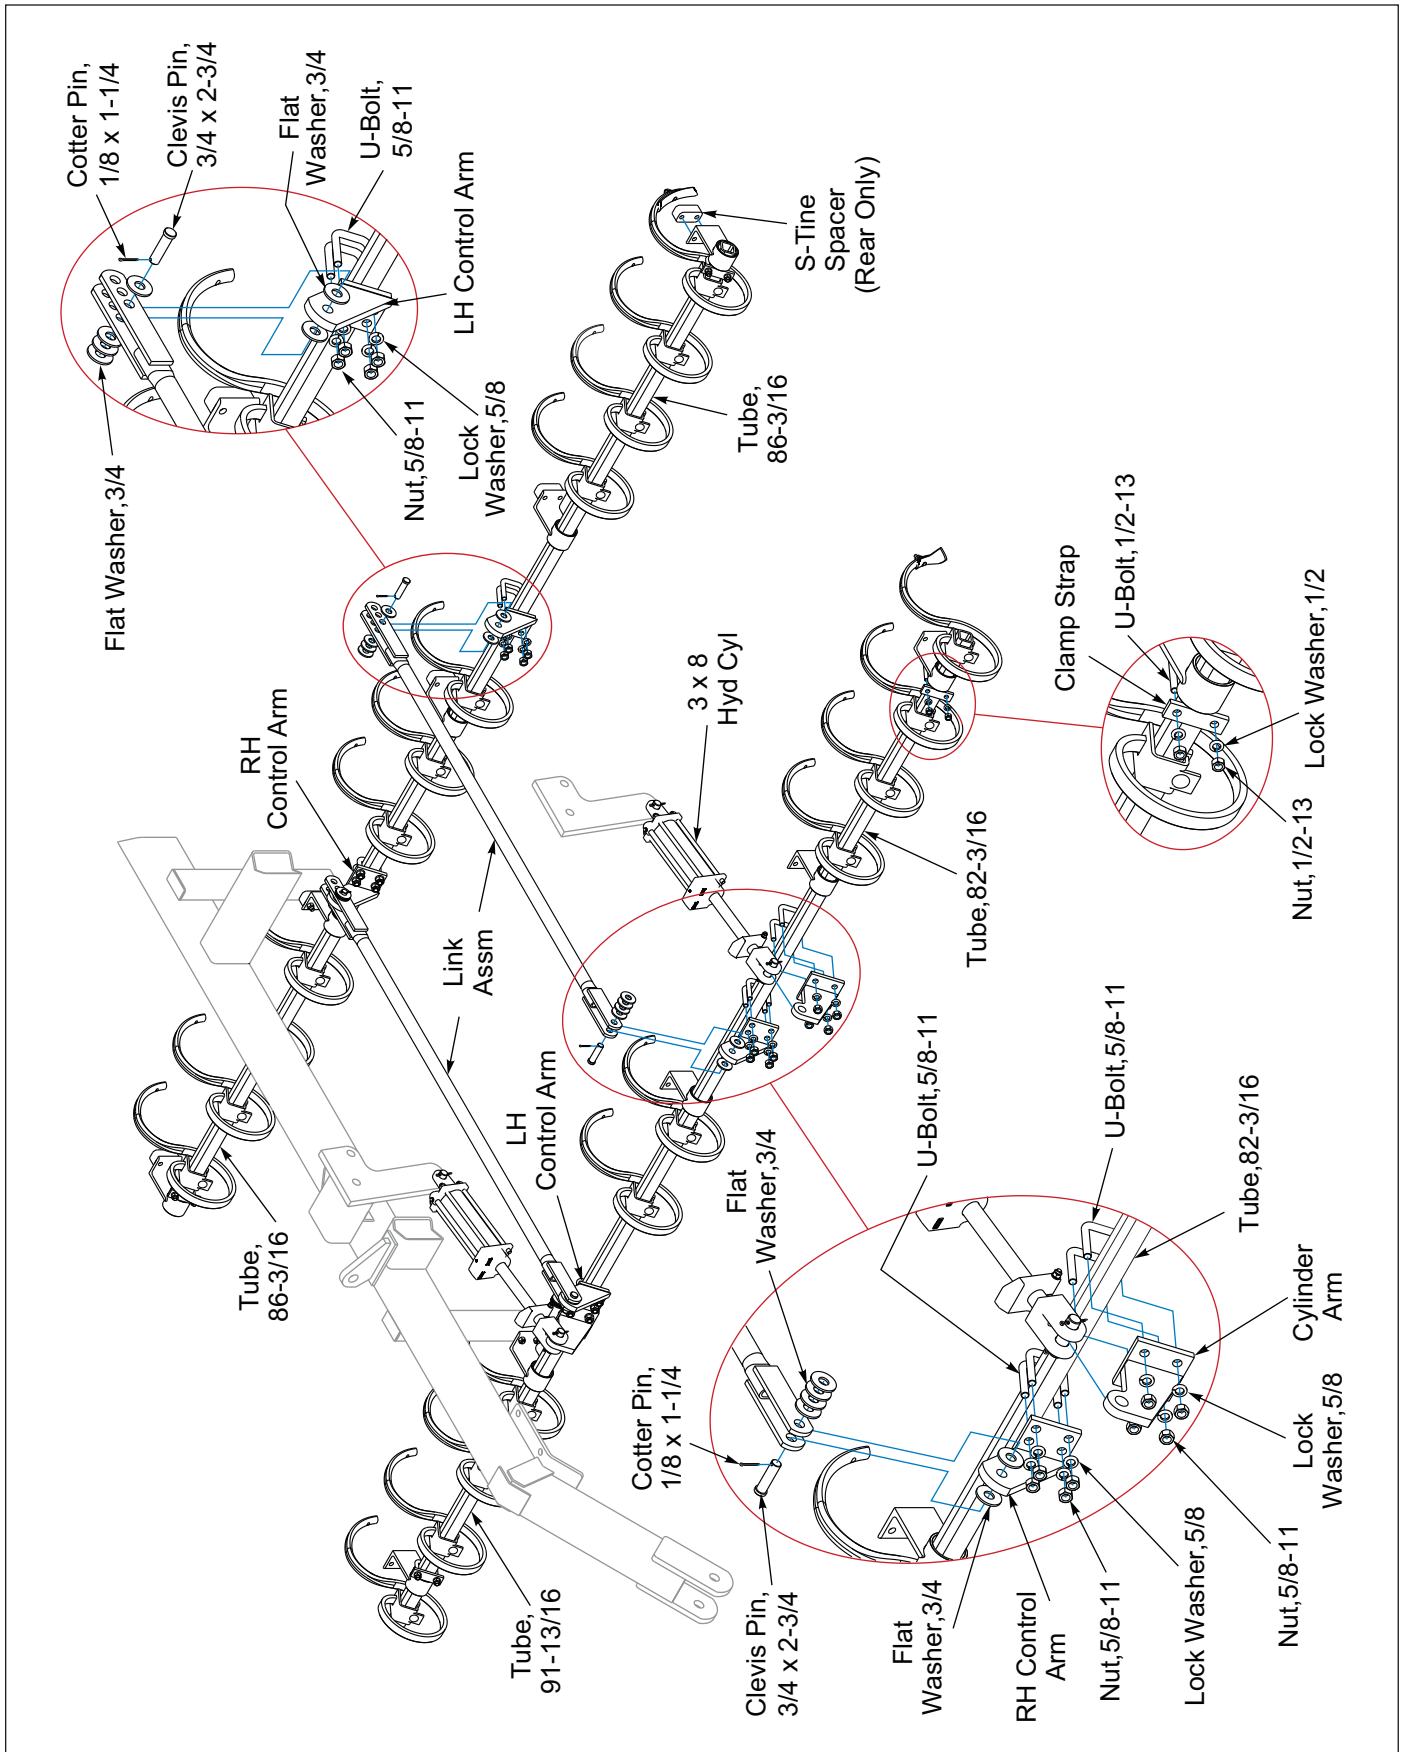

Figure 2-15: Center Frame S-Tine Installation
1. Attach the Right Hand and Left Hand Control Arms to the Front Tubes using 5/8-11 U-Bolts, Lock Washers and Nuts. Repeat for the Rear Tubes. **See Figure 2-15**.